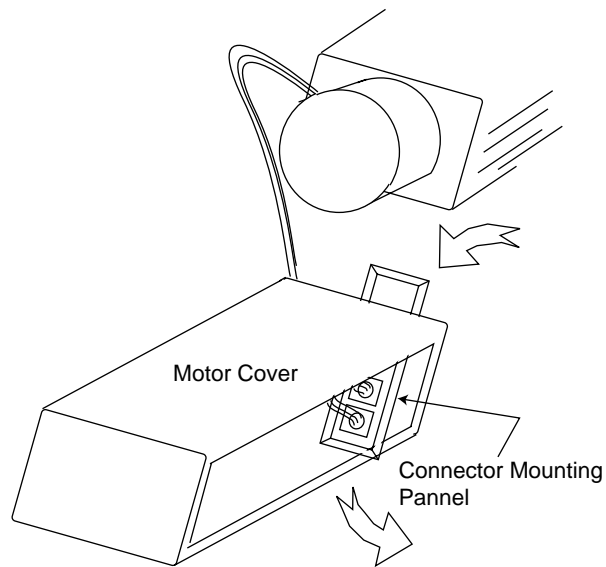

Figure C-4. Re-inserting Connector Cover Panel
5. Slide the connector mounting panel through the slot toward the outside of the motor cover as shown in Figure C-4).